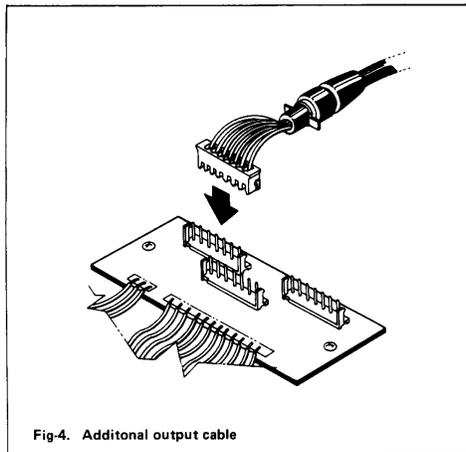

Fig. 4. Additional output cable
**5. Additional output cables (Fig. 4)**